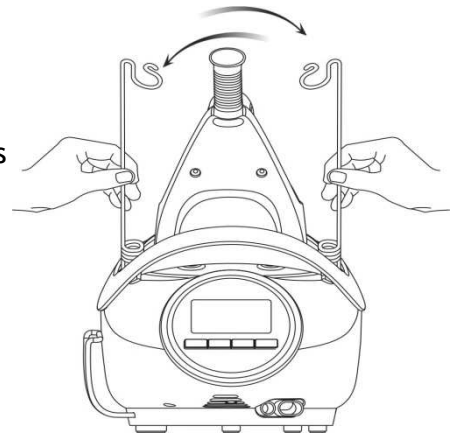

Figure 3
3. Place the supply cord onto the cable support hook as shown in Figure 3.